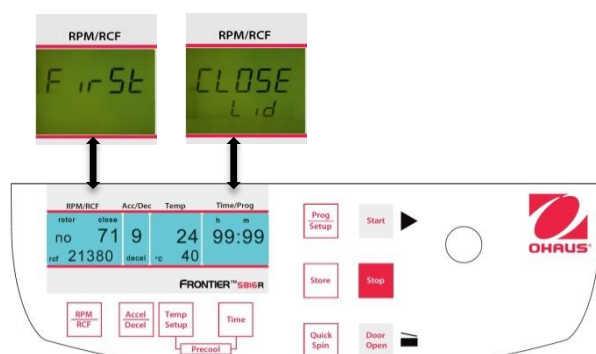
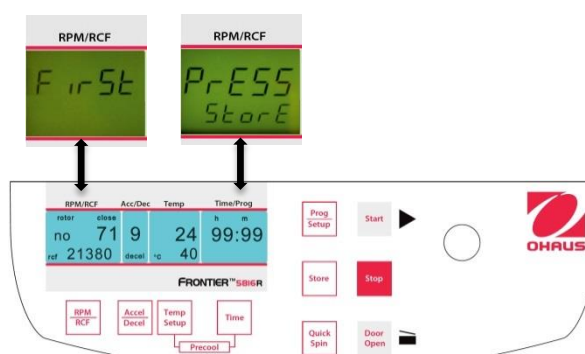

Figure. 23
Figure. 24
Close the lid of the centrifuge. Now proceed as described previously to set all important run parameters. If the lid isn't closed when storing the program, in the display **"RPM/RCF"** (A-1), the words **"FirSt"** and **"CLOSE Lid"** (See figure 23) flashes alternately. If you want to start the run without storing the program, in the display **"RPM/RCF"** (A-1), the words **"First"** and **"PrESS StoreE"** (See figure 24) flashes alternately.
For adaption of data press the key **"Store"** (12) (refer to figures 23 and 24) for approx. 1 second. If the program is stored correctly, the word **"StorE"** appears in the display **"RPM/RCF"** (A-1). As a result, the word **"programm"** (M10) disappears.